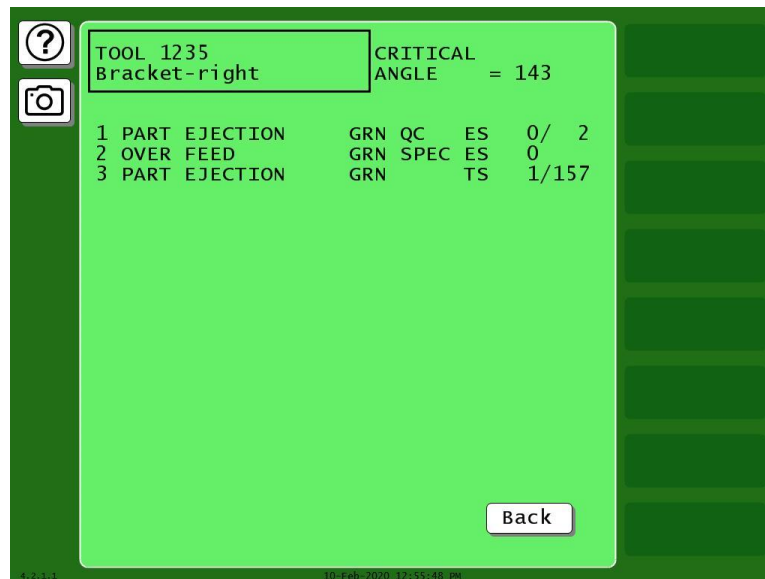

Figure 5-38. Sensor Summary Screen Showing Ready Signals for Green Sensors
- Select the stop type you want. The Sensor Summary screen displays, Figure 5-38, with the Ready signal On and Off angles shown for each green sensor programmed in the group of sensors 1-16. Sensors are displayed in ascending On angle order.